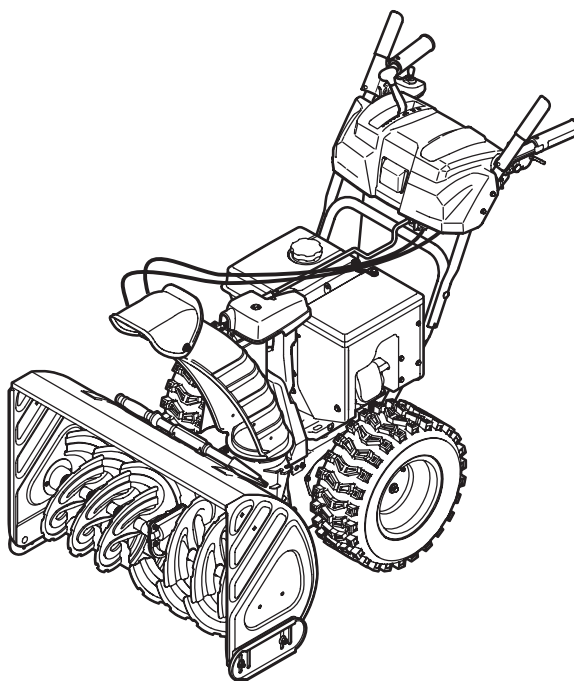

**Figure 2-40**
9. Make sure the shift lever on the back of the transmission is rotated downward to the full extent of its rotation. See Figure 2-40.